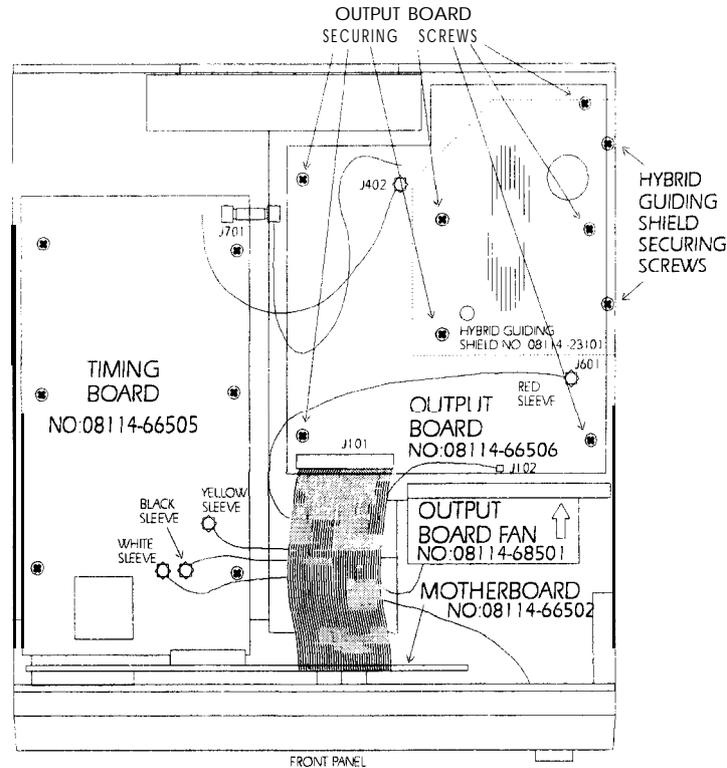

Figure 4- 11. Location of the Output Board
2. Remove the 6 screws securing the timing board to the chassis. See Figure 4- 10.